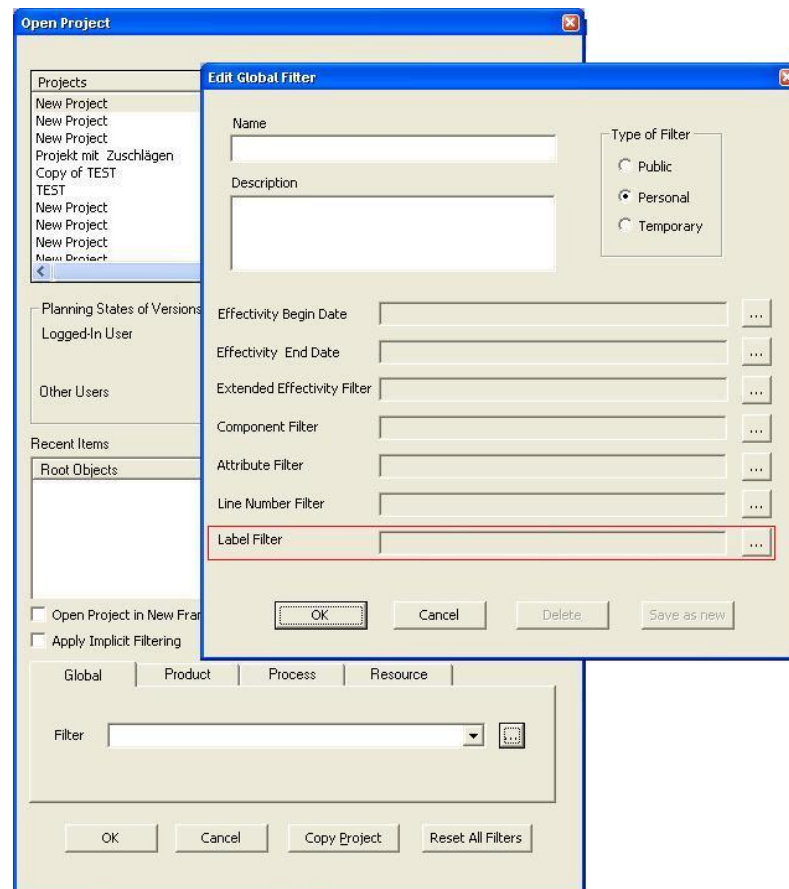

Figure 82: Using the Label Filter as Filter – Opening Projects
- 2) Click  button next to **Label Filter**. The **Label Filter** dialog appears. In this dialog, you can see all available Label filters. *Please refer to the Figure 82.*